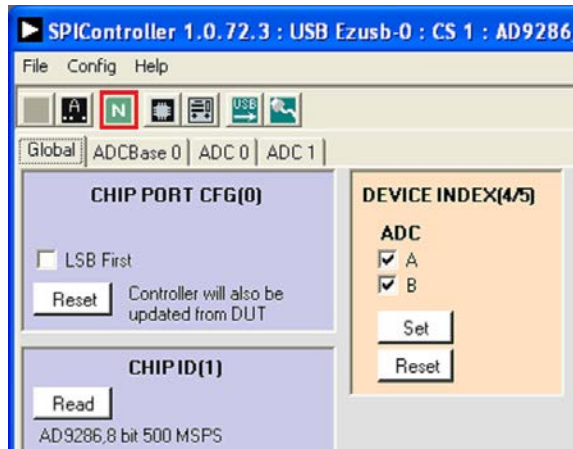

Figure 8. SPIController, New DUT Button
2. Click the **New DUT** button in the **SPIController** window (see Figure 8).